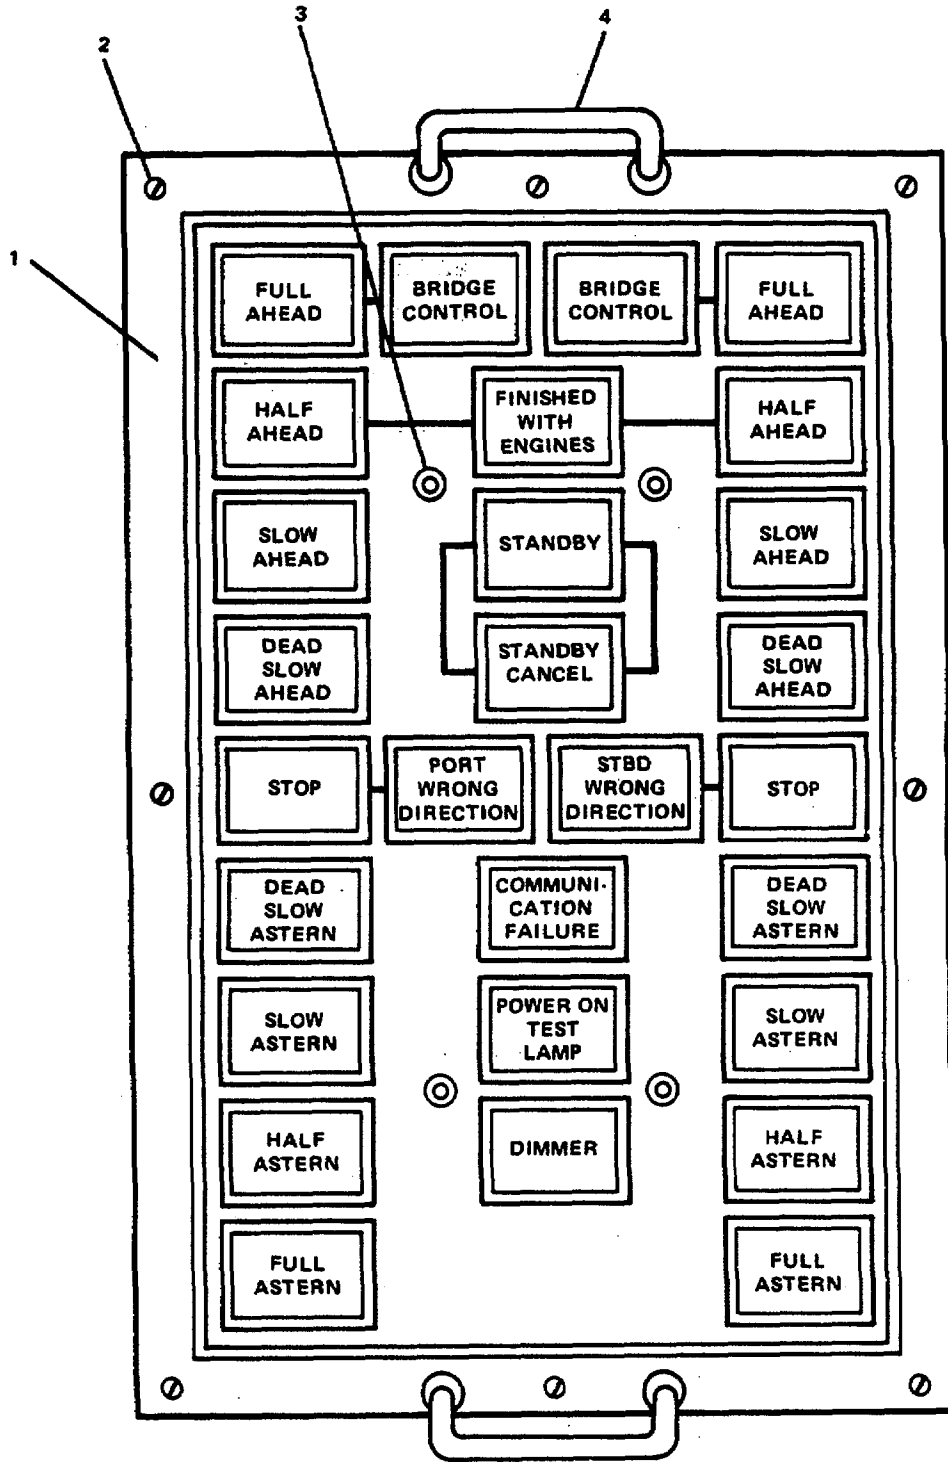

FIGURE 3-126. *EOT Engine Room Panel Assembly.*
- d. Remove tag and connect electrical power cable (20) to BTRY (21).
- e. Remove tag and connect electrical power cable (23) to S.S. SWBD (22).
- f. Remove tag and connect electrical power cable (7) to liquid level switch (8).
- g. Remove tag and connect electrical power cable (5) to liquid level switch (6).
- h. Remove tag and connect electrical power cable (18) to digital indicator (19).
- i. Remove tag and connect electrical power cable (16) to digital indicator (17).
- j. Install engine room multi-remote module (4).
- l. Close cover (2) on enclosure (3) and tighten captive screws (1).
**3-138. Replace/Repair Engine Room Panel Assembly. (Figure 3-126)**